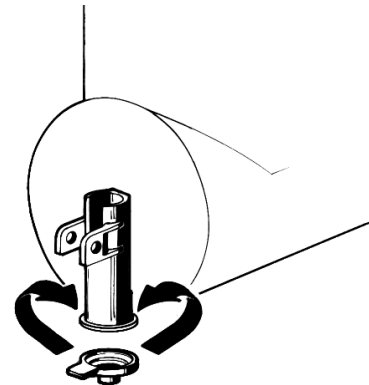

figure 5
- 11 - Restrictor cap. When the unit is used in Soft Drink mode it is advisable to install the restrictor cap on the faucet outlet in order to reduce the flow of liquid from the dispenser (see figure 5).